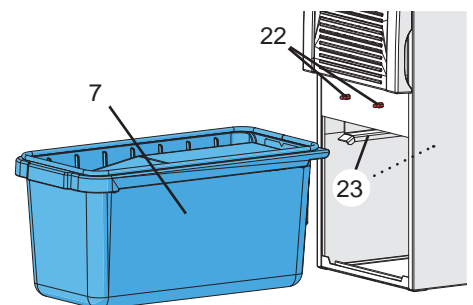

fig. 16
- ⇒ Inspect the dust drawer seal for damage and replace it, as required (24)
- ⇒ Insert the dust drawer, making sure it is straight, and push it in as far as it will go. Make sure that the dust drawer is seated correctly on the guide (23, fig.16)
- ⇒ Install the front panel (5, fig.1) on the bottom hooks then push it into the upper lock bolts (22, fig.16), pressing firmly until it locks in place.